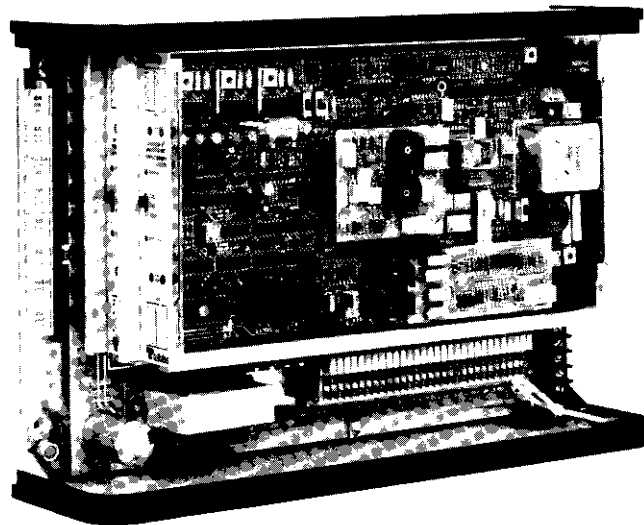

figure 1. 267S Signaling and Terminating Assembly
1.01 The Tellabs 267S SF Signaling and Terminating Assembly (figure 1) provides mounting for one or two complete single frequency (SF) signaling and terminating circuits, plus power and ringing, in a compact, wall-mounted apparatus case. Designed primarily to house Tellabs' 6927 2Wire and 6947 4Wire Universal SF Signaling Set modules with Gain, the self-contained 267S Assembly requires only connection to the facility and to a standard 117Vac, 60Hz receptacle to become fully operational.